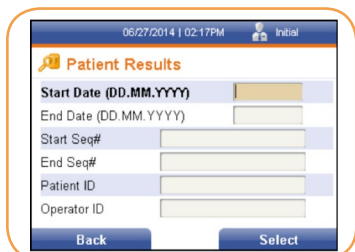

FIGURE 69
2. Press the right soft key to select it. The *Patient Results* screen is displayed (Figure 69).